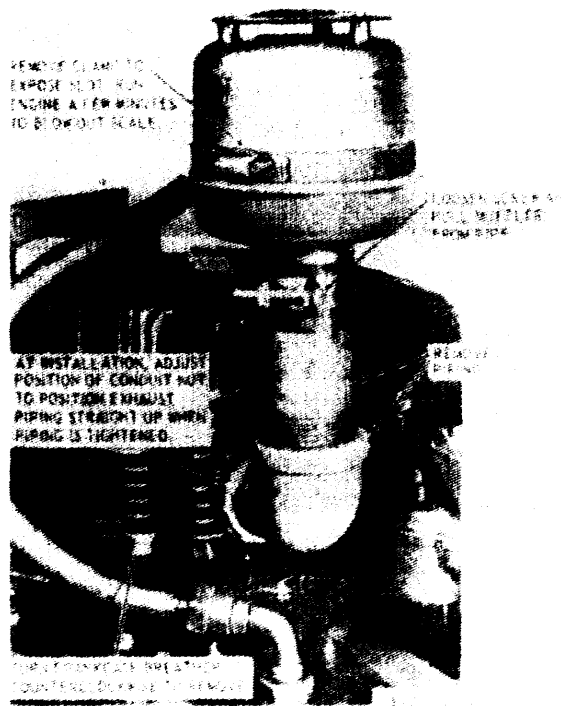

Figure 29. Muffler, exhaust piping and breather, removal and installation
a. *Service.* Refer to figure 29 and service the muffler.
b. *Removal.* Refer to figure 29 and remove the muffler and piping.
- (1) Clean the exhaust system parts with an approved cleaning solvent. Take care to remove carbon from inside of piping and muffler.
- (2) Inspect the muffler for cracks, dent, holes, thin walls, and other damage
- (3) Inspect all other parts for cracks, worn or damaged threads, corrosion, excessive heating, and other damage. Replace all damaged parts
d. *Installation.* Refer to figure 29 and install the muffler and piping.
a. *Removal*, Refer to figure 29 and remove the crankcase breather.
- (1) Clean the crankcase breather by immersing in an approved cleaning solvent; shake dry.
- (2) Inspect the breather for visible damage. The breather cap must be free on the top of the breather. Blow through the breather with compressed air to assure that the passage through the breather is free.
c. *Installation.* Refer to figure 29 and install the crankcase breather.